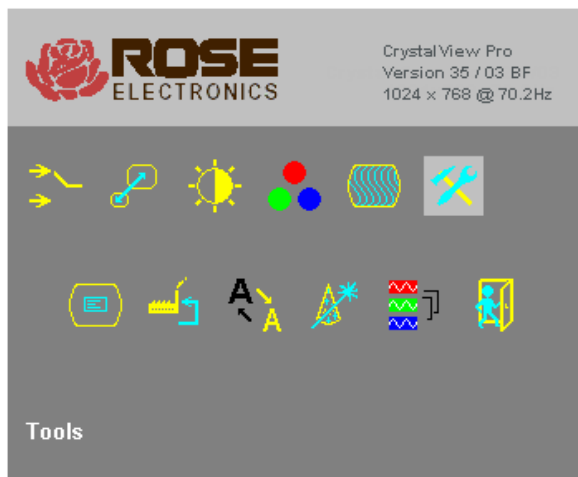

Figure 7. Tools menu
4. Select Automatic detection of the number of pixels per line and the best phase" then press Enter to start the auto-detect procedure (See Figure 7).